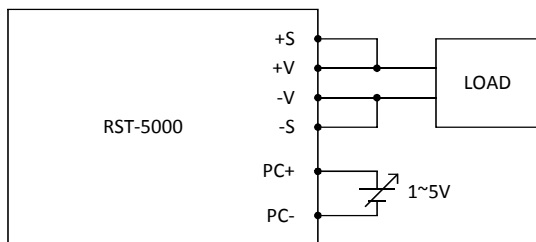

Fig 4.1
(1) Have the DIP switch set as
(2) Using external voltage source between PC+ and PC- on CN313 or CN314 as shown in Fig 4.1.